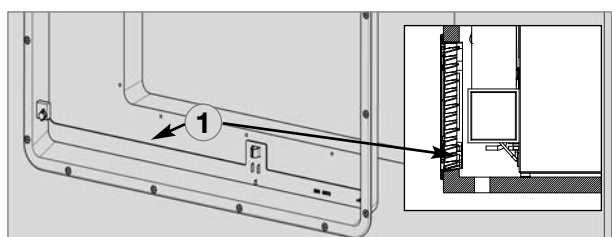

Fig. 21
Install the lower ventilation grille at floor level of the vehicle (Fig. 21), allowing unburnt gas (heavier than air) to escape directly into the open air. The gas burner must be located above the edge (1).